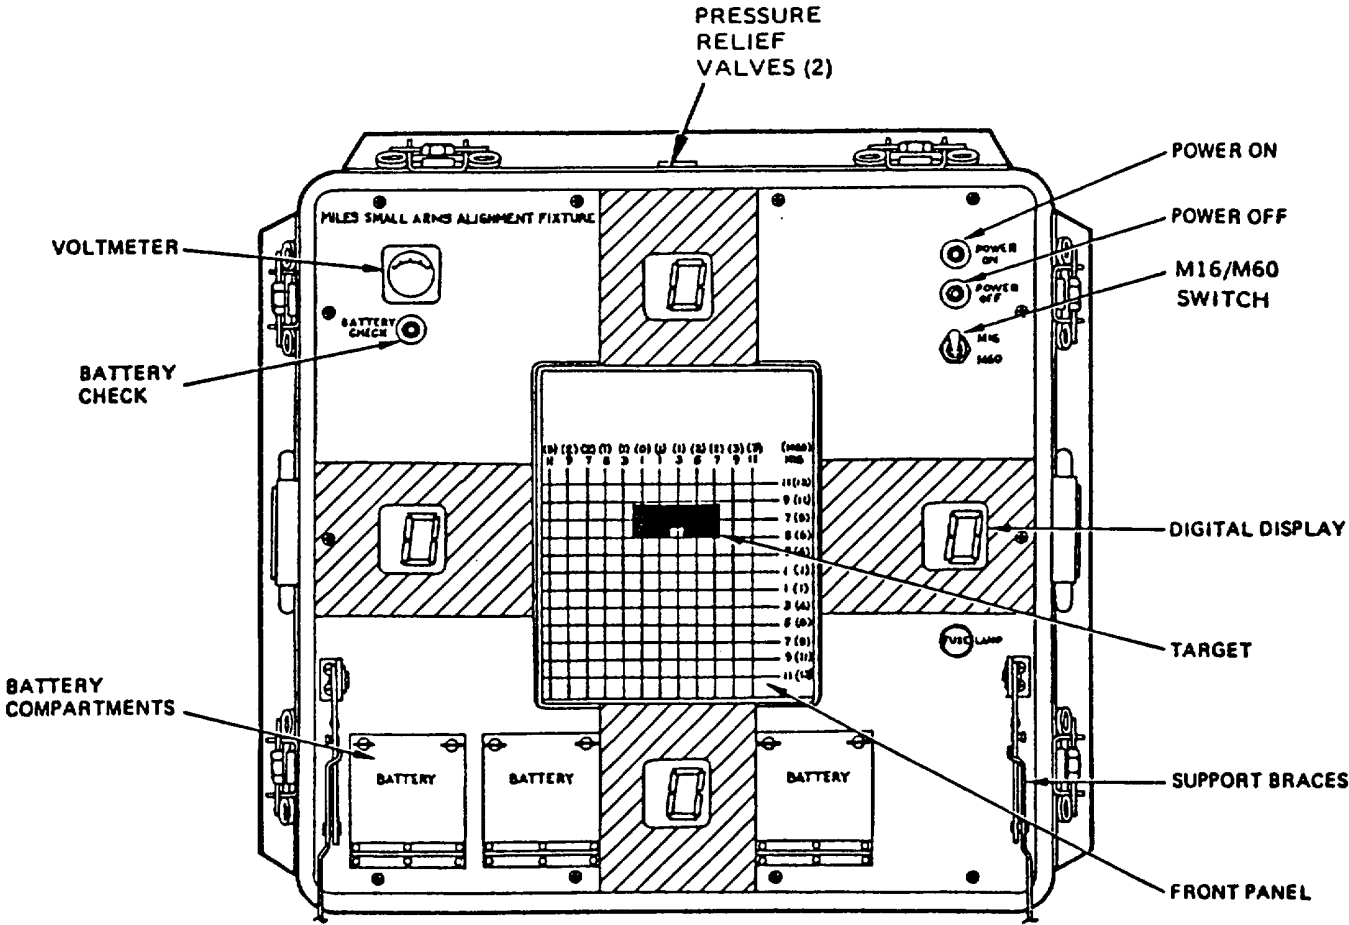

FIGURE 4-1. Small Arms Alignment Fixture Assembly (P/N 11835282)
Refer to Figure 4-1 for an illustrated view of SAAF P/N 11835282 which consists of the following components, controls, and indicators.
- 7a. If using SAAF PIN 11835282 (refer to Figure 4-1):